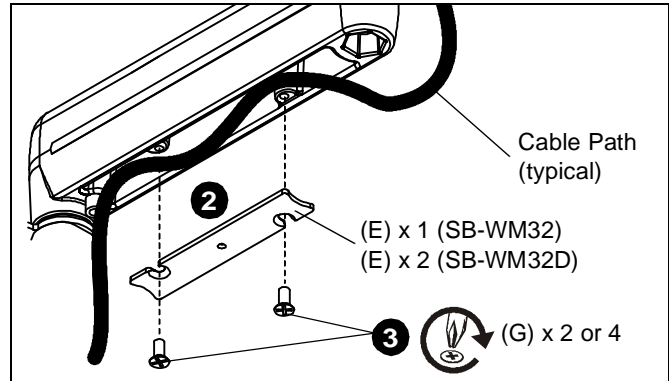

Figure 7
- Carefully insert cables in cavity located in lower portion of mount arm. (See Figure 7)
- Install cover (E) with two 8-32 x 3/8" Phillips screws (G).